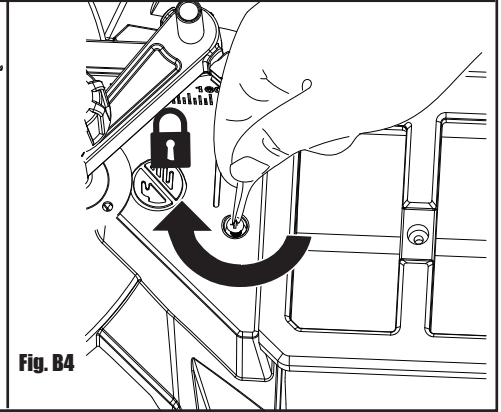

Fig. B4
- 4) Re-tighten the screw on the corner of the base using a screwdriver to secure the table extension. (See Fig. B4)